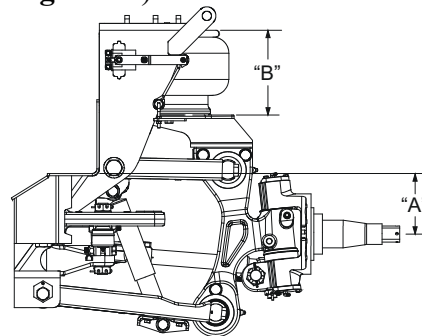

Figure 11
The ride height of the front suspension is the distance from the bottom of the chassis frame rail to the center of the wheel spindle. An alternate measurement may be taken as the height of the air spring (See **Figure 11**).
- A: On vehicles with front suspension equipped with (2) height control valves, check and adjust the rear suspension first.
4. Measure either the wheel center to bottom of frame (“A”) or air spring height (“B”). If the dimensions are not within $\pm 1/8$ ” of measurements in **Figure 11**, adjust as follows.